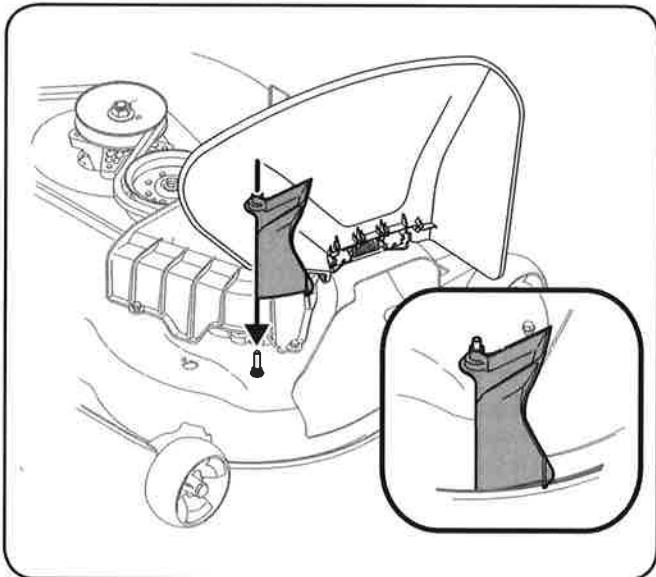

Figure 1-4
2. On 54-inch **Stamped Decks Only**, position the chute adapter over the pin. See Figure 1-4.